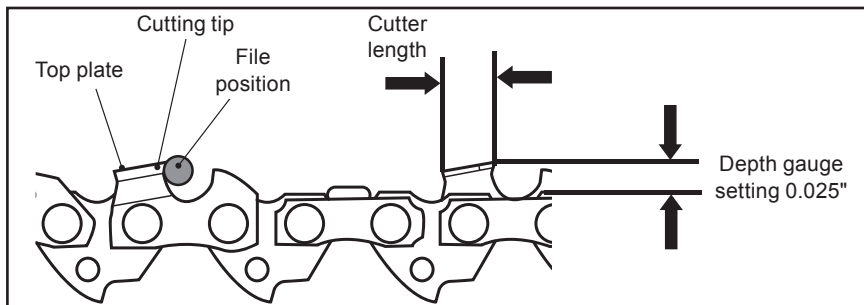

Fig. 42
9. Use a depth gauge measuring instrument to check the height of the depth gauge. Depth gauge measuring jigs are available from most reputable tool merchants (Fig. 42).